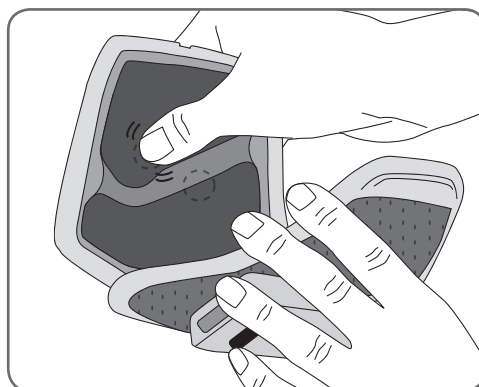

Figure 8-7: Snapping the large cloth electrode.
5. Press firmly to snap the large cloth electrode to the L300 FS Cuff. See Figure 8-7.